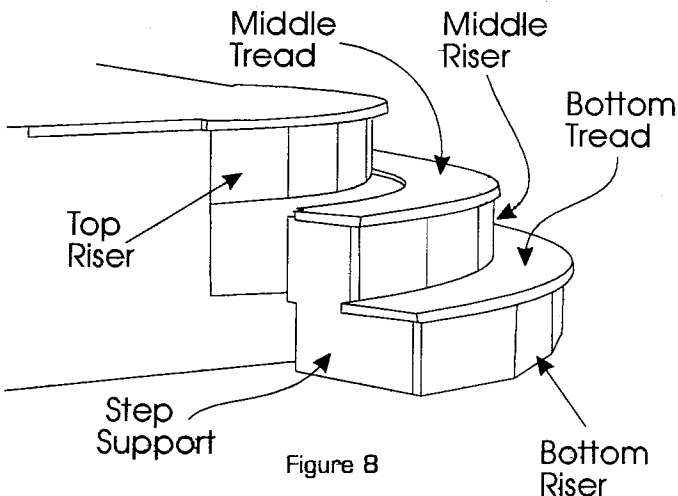

Figure 8
6. Install Bottom Tread and Riser same as Middle Tread and Riser. Fig. 8 shows an alternative assembly procedure.